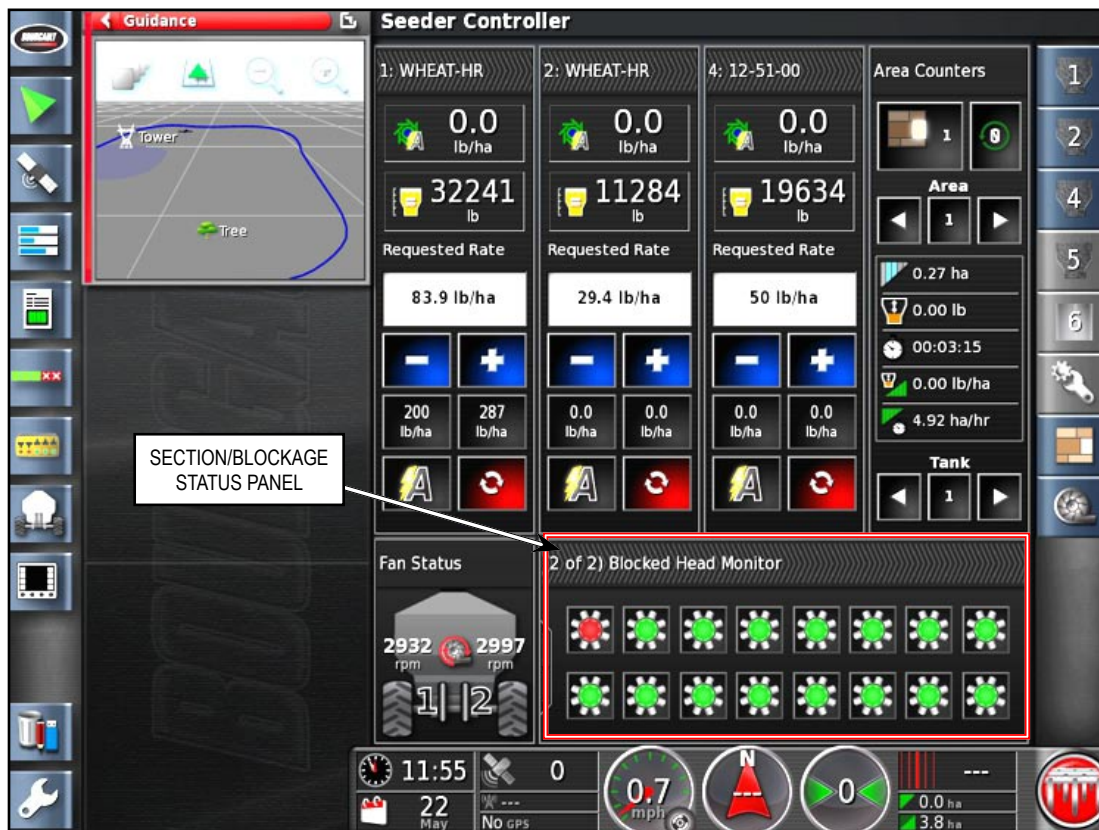

Figure 13.13 - Blockage System Status - Seeder Controller Expanded View
- b. In Section/Blockage status panel in Seeder Controller expanded view. Refer to *Figure 13.13*.